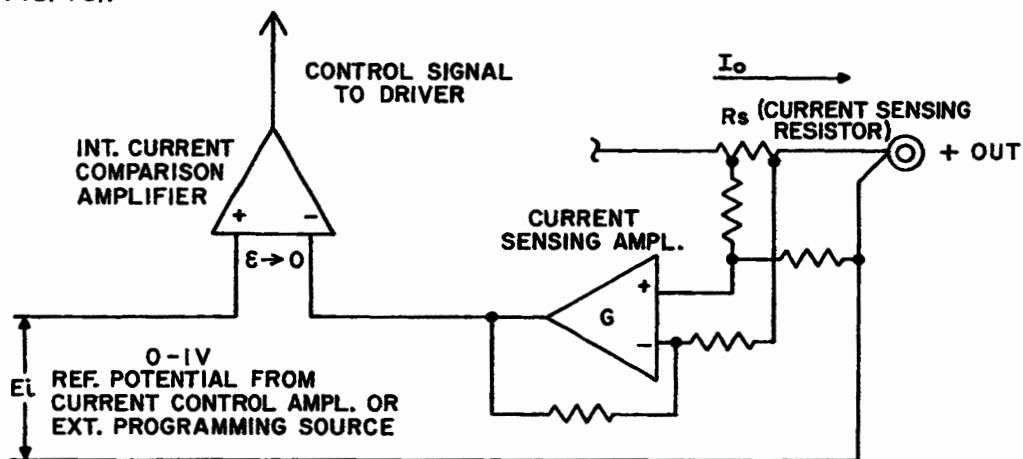

FIG. 4-3 CURRENT COMPARISON EQUIVALENT CIRCUIT.
- 4-6 In the current mode of operation, the CURRENT-COMPARISON AMPL. senses any change in the output current by comparing an amplified sensing voltage to a reference potential, developed by the CURRENT-CONTROL AMPL. (See FIG. 4-3).